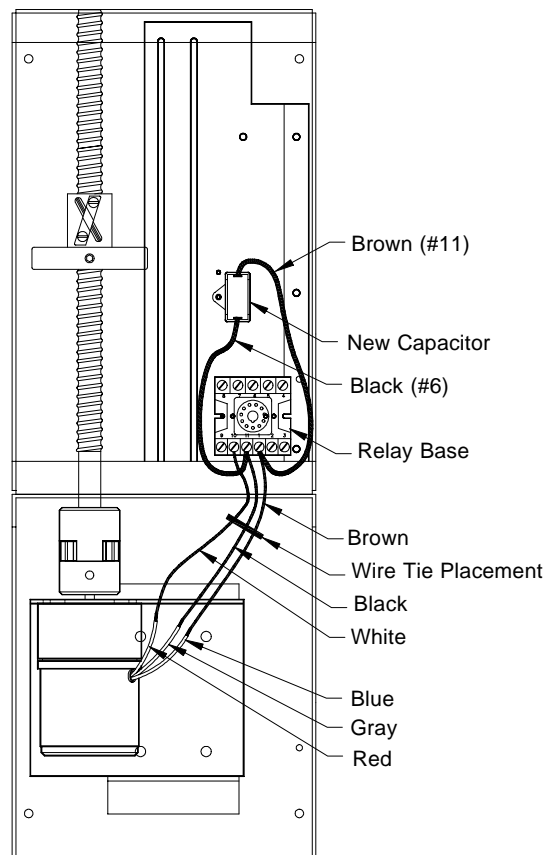

Figure 3A
- 10) Remove the existing capacitor from actuator. Attach new capacitor with #8 x 5/8" Tapping screw into a hole on the limit switch assembly closest to the relay. Slide terminal of new wire #11 (brown) and #6 (black) onto capacitor. Attach wire #11 to terminal #1 on relay base and wire #6 to terminal #11. **See Figure 3A.**